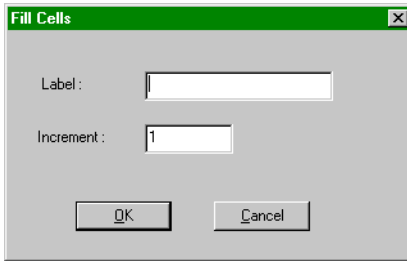

Figure 6.3: Fill Cell dialog box
3. From here, select the **F**ill sub-menu item. This will advance you to the [Fill Cell] dialog box, similar to the example shown in Figure 6.3 (see Page 76).